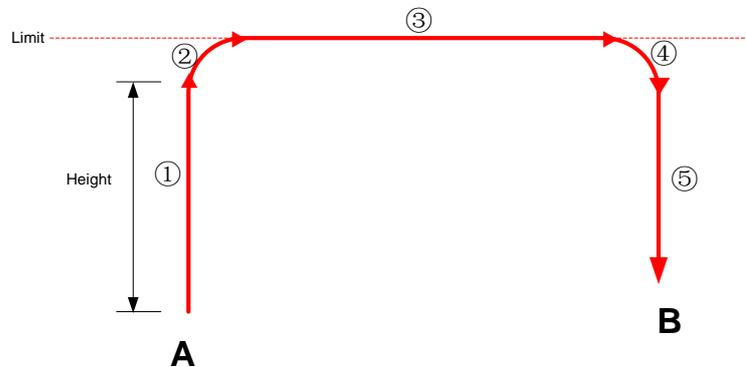

Figure 2.8 JUMP mode
- **JUMP:** From point A to point B, The joints will move in MOVJ mode, of which the trajectory looks like a door, as shown in Figure 2.8.
In JUMP mode, if the starting point or the end point is higher than or equal to **Limit**, or the height that the end effector lifts upwards is higher than or equal to **Limit**, the trajectory is different to that of Figure 2.8. Assuming that point A is the starting point, point B is the end point, **Limit** is the maximum lifting height, and **Height** is the lifting height.